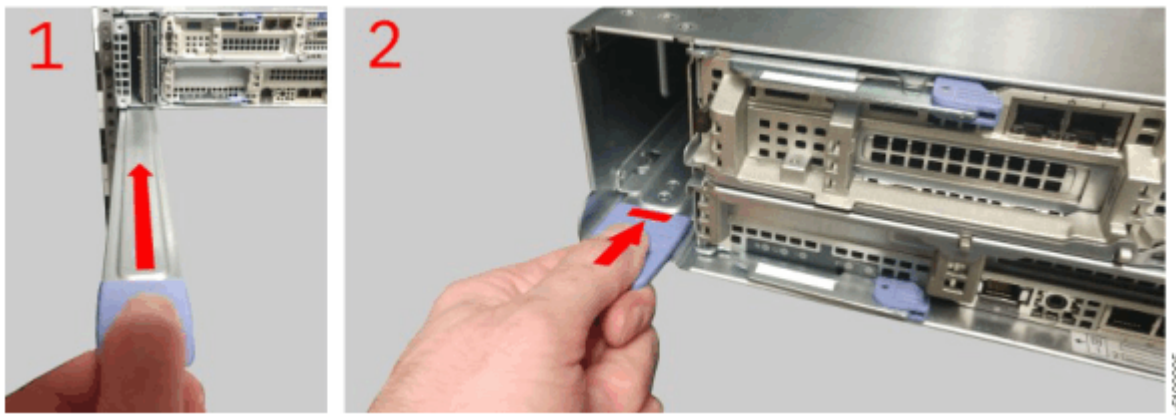

Figure 110. Inserting the new power interposer
5. Hold the power interposer so that the connectors are near the PSU slot, as shown in Figure 110 on page 147 \(1\).
6. Slide the power interposer into the PSU slot until the handle is the only part that is visible at the rear of the enclosure, as shown in Figure 110 on page 147 \(2\).